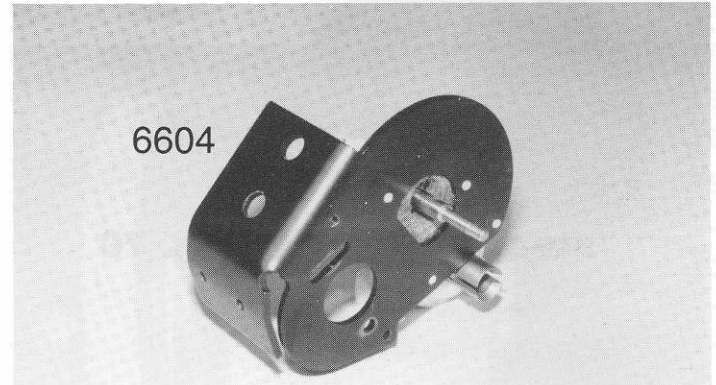

Fig. 67
□ **Figs. 67** Now take the #6604 black anodized motor mounting plate from the Stealth main bag. Secure it to the right hand tranny case on the motor plate spacers using the #6935 screws already installed in the left case half. Tighten all four bolts. **WARNING! These are aluminum screws, so make sure all four screw threads are started into the motor plate before you begin to tighten the screws. Aluminum screws can strip their threads very easily.**